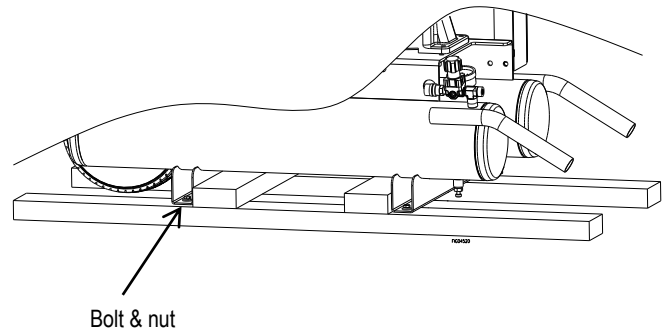

Figure 3
1. Unbolt the compressor feet by removing the bolts and nuts and discarding them. (Figure 3)